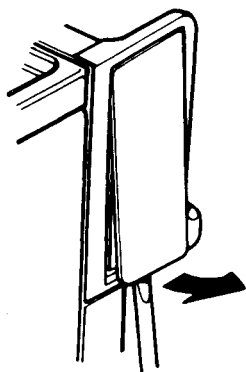

Fig. 9a
3. Prise out the fascia end cap cover plates (one each side) from fascia end caps (see Fig. 9a).